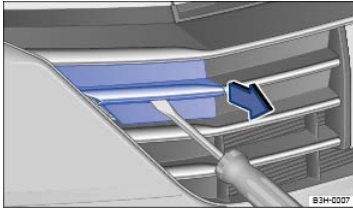

Fig. 172 In the right front radiator grille: Removing the cover.
- Insert the screwdriver in the recess of the cover from below ⇒ Fig. 172 (arrow) and use the screwdriver as a lever to release the cover.